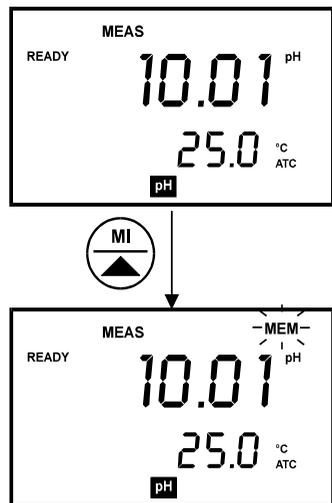

Figure 25: Memory In function
2. The [MEM] annunciator will flash momentarily (Figure 25).